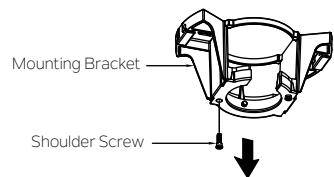

Fig. 14
Step 1. Remove one of the two shoulder screws in the mounting bracket. Loosen the second shoulder screw without fully removing it. (Fig. 14)